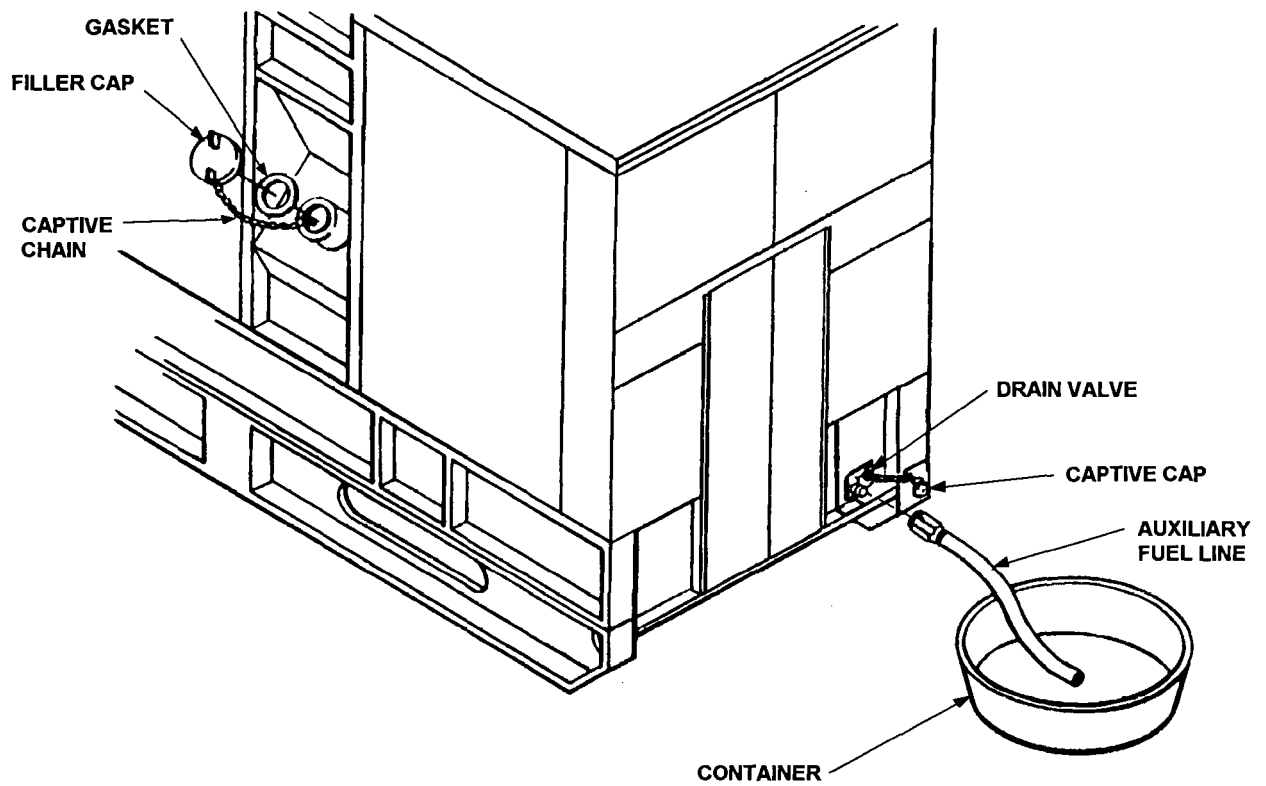

Figure 3-5. Main Fuel Tank Inspection and Service
(1) Filler Cap,
- (a) Unscrew filler cap (Figure 3-5) and disconnect captive chain.
(2) Main Fuel Tank.
- (a) Remove captive cap from drain valve (Figure 3-5).